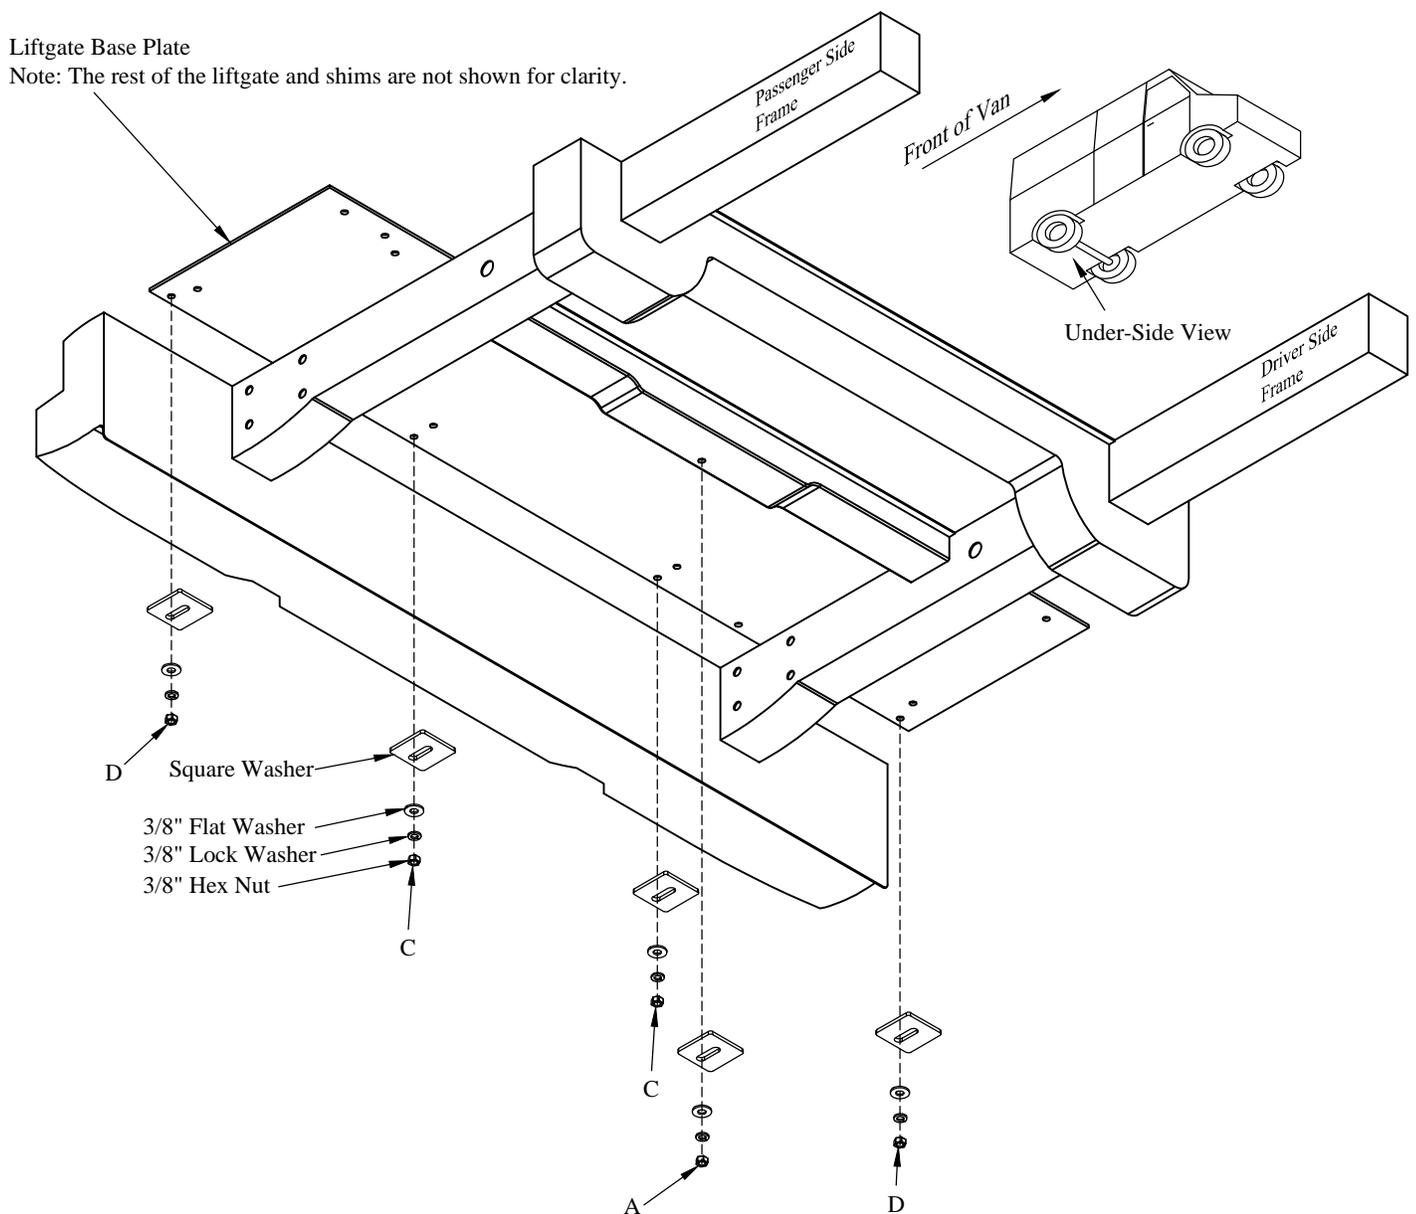

Figure 11: Under-side view of van.
4. **Insert** base plate bolts into holes in base plate, down through van floor (Figure 11).
- 5. Install** a square washer, 3/8" flat washer, lock washer, and hex nut on each of the "C" and "D" location bolts (Figure 11).
- 6. Install** a square washer, 3/8" flat washer, lock washer, and hex nut on the "A" location bolt (Figure 11).
15. **Tighten** the "A", "B", "C", "D", and "F" position nuts in an alternating pattern (Figure 11). Do not over-tighten and warp the base plate or crush the van frame.